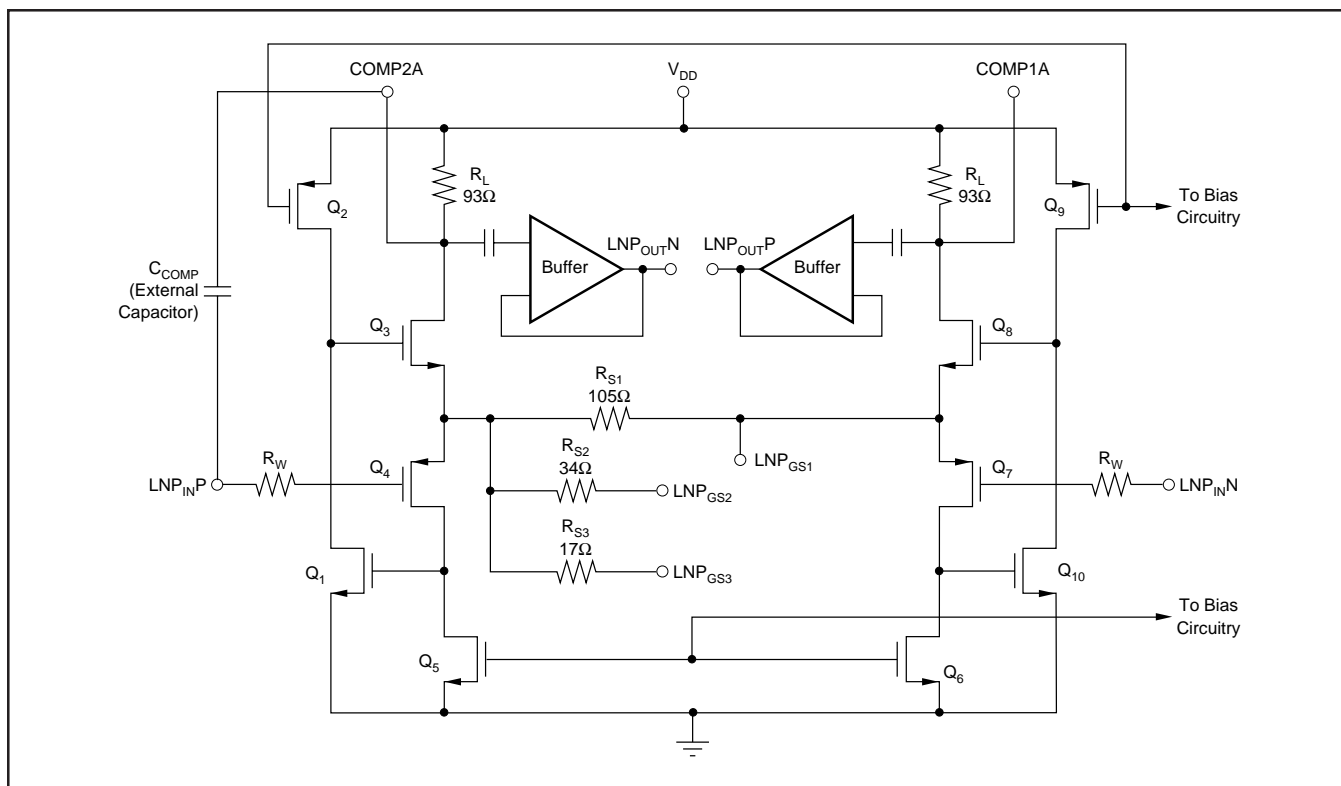

FIGURE 4. Schematic of the Low Noise Preamp (LNP).
The LNP is designed to achieve a low noise figure, especially when employing active termination. Figure 4 is a simplified schematic of the LNP, illustrating the differential input and output capability. The input stage employs low resistance local feedback to achieve stable low noise, low distortion performance with very high input impedance. Normally, low noise circuits exhibit high power consumption due to the large bias currents required in both input and output stages. The LNP uses a patented technique that combines the input and output stages such that they share the same bias current. Transistors Q₄ and Q₅ amplify the signal at the gate-source input of Q₄, the +IN side of the LNP. The signal is further amplified by the Q₁ and Q₂ stage, and then by the final Q₃ and R_L gain stage, which uses the same bias current as the input devices Q₄ and Q₅. Devices Q₆ through Q₁₀ play the same role for signals on the -IN side.
It is also possible to create other gain settings by connecting an external resistor between $LNPG_{S1}$ on one side, and $LNPG_{S2}$ and/or $LNPG_{S3}$ on the other. In that case, the internal resistor values shown in Figure 4 should be combined with the external resistor to calculate the effective value of R_S for use in Equation (1). The resulting expression for external resistor value is given in Equation (2).
where R_{EXT} is the externally selected resistor value needed to achieve the desired gain setting, R_{S1} is the fixed parallel resistor in Figure 4, and R_{FIX} is the effective fixed value of the remaining internal resistors: R_{S2} , R_{S3} , or $(R_{S2} \parallel R_{S3})$ depending on the pin connections.
For greatest flexibility and lowest noise, the user may wish to shape the frequency response of the LNP. The COMP1 and COMP2 pins for each channel (pins 10 and 11 for channel A, pins 26 and 27 for channel B) correspond to the drains of Q_3 and Q_8 in Figure 4. A capacitor placed between these pins will create a single-pole low-pass response, in which the effective R of the RC time constant is approximately 186Ω .